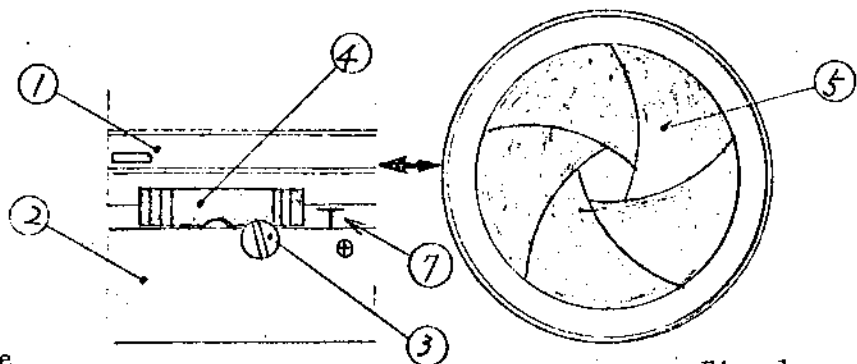

Fig. 1
Set the T change-over lever of the helicoid with front and rear frame installed at the position shown in Fig. 1, and cause the shutter to operate, and after that put the lever back to the position shown in Fig. 2.
- (1) When the shutter is pushed with T change-over lever (4) set at the position of Fig. 1, the shutter vane (6) must be held raised with diaphragm iris kept in the condition of Fig. 1. That is, the condition of Fig. 1.